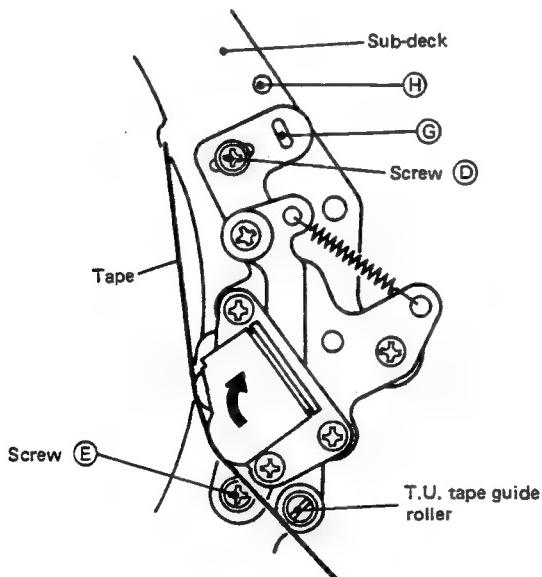

Fig. 2-56
5. Loosen the two screws (D and E) and slide the audio/control head assembly fully in the direction of the drum (indicated by the arrow) as shown in Fig. 2-56.